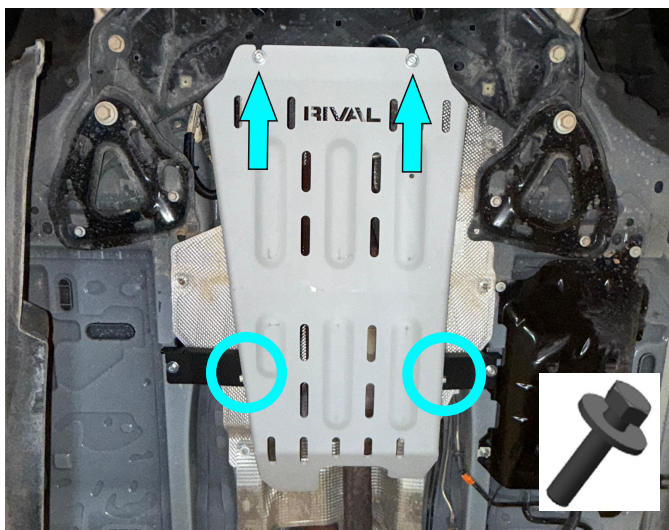

Fig. 9
8. Slide the front of the skid plate (item 1) over the previously installed M8x25 bolts and M8 washers from step 4. Secure the rear part of the skid plate to the previously installed brackets using M8x25 bolts and M8 washers (items A, B) as shown in Fig. 9.